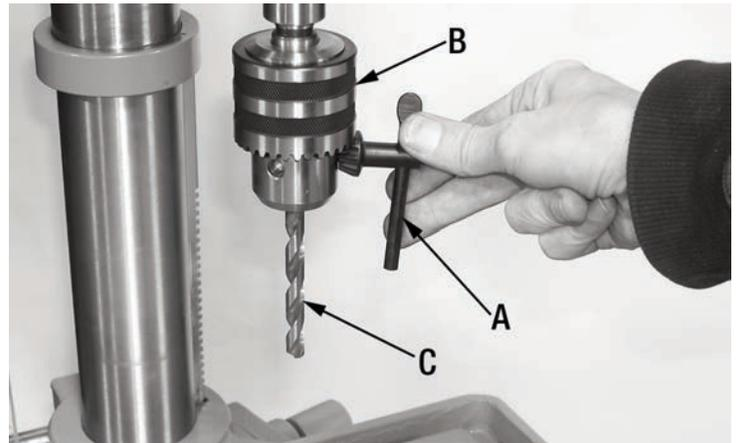

FIGURE 13
2. Insert the chuck key (A) Fig. 13 into the chuck (B) as shown, turn chuck key counterclockwise to open the chuck jaws.
3. Insert a drill bit (C).